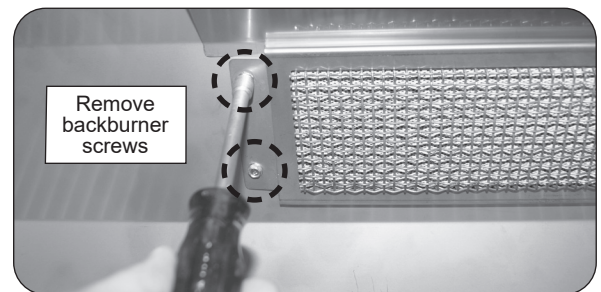

**Fig. 41-2 Remove electrode**
1. Remove the backburner electrode mounting screw (1/4" hex) (see Fig. 41-2, A) and loosen the electrode. Carefully pull the electrode assembly slightly from the grill wall to give enough clearance for the backburner to be removed (see Fig. 41-2, B).